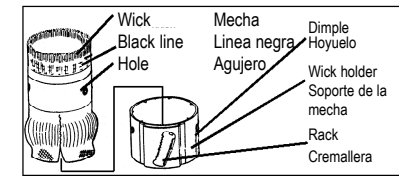

Figure 5/Figura 5
6. Using a siphon pump drain the kerosene from the sub-fuel tank and wipe tank clean with a paper towel & fresh K-1 kerosene. Remove the old wick from the wick holder by pushing toward the center. Discard of properly. If your heater has a removable metal wick holder, be careful that you do not discard it. (Figure 5)
(holes) If your wick has holes, make sure these holes line up with dimples on the wick holder. (Fig. 5)
(Agujeros) Si su mecha tiene agujeros, asegúrese de que estos agujeros están alineados con los hoyitos del aguantador de mecha. (Fig. 5)